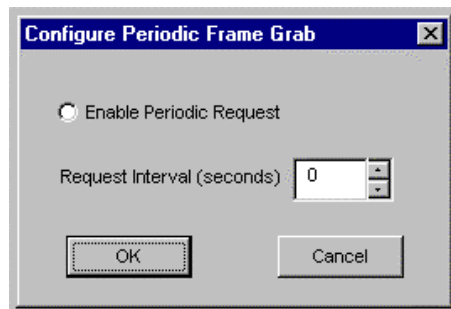

Figure 3.26 Periodic Frame Grab
2. Position the mouse in the video display area and click the right button to bring up the floating menu. Highlight “Periodic Reports” and click on “Periodic Frame Grab” in the floating menu (Ref to Fig 3.26).
3. The “Configure Periodic Frame Grab” window (Ref to Fig 3.26) appears. Select “Enable Periodic Request” and enter the report interval in seconds between frame grab requests. Click “OK”.